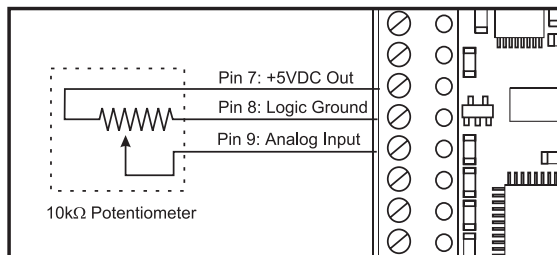

Figure 2.2.7: Interfacing the Speed Control Input with a Potentiometer
This 0 - 5 volt analog input will typically be interfaced using a 10kΩ potentiometer as illustrated in Figure 2.2.7, a joystick wiper or by a 0 to 5V (4 - 20 mA) analog output. If a constant velocity is desired, the speed control input can be connected directly to the +5VDC output and the desired velocity set using the VM parameter. When at 0 volts + DB (value of the potentiometer deadband parameter) the step clock frequency will be at the value specified by the initial velocity (VI) parameter. When at FS (the value specified by the full